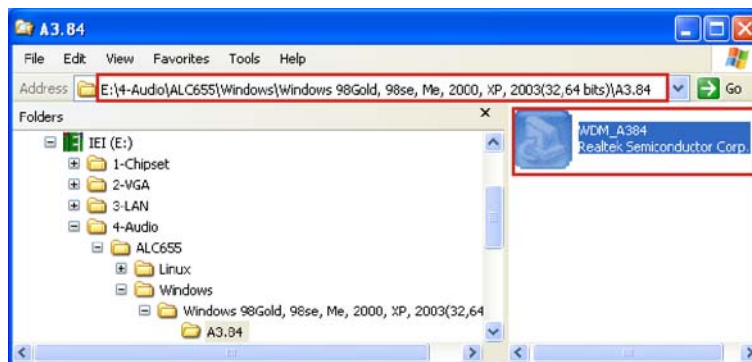

Figure 6-21: AC'97 Audio Driver Options
Step 3: Browse to “E:\4-Audio\ALC665\Windows\Windows 98Gold, 98se, Me, 2000, XP, 2003(32,64 bits)\A3.84” Figure 6-21
Step 4: Double-click the installation file in Figure 6-21.